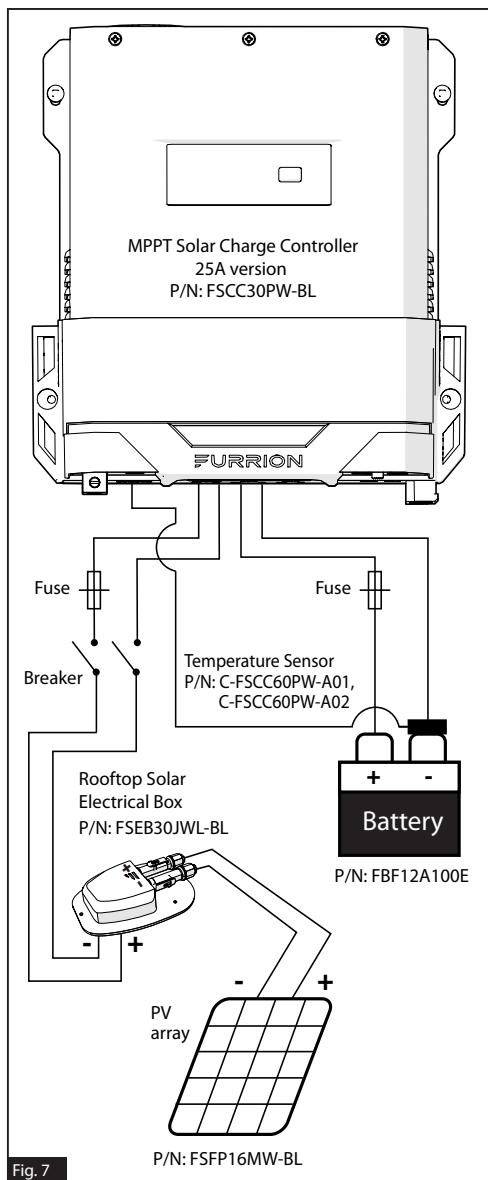

Fig. 7
7. Turn on the disconnect breaker for PV array (if applicable). [Figure 7/8/9/10]